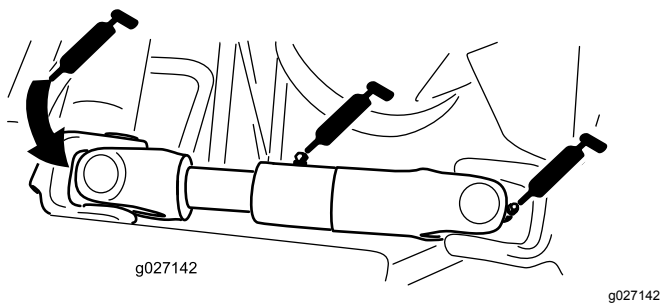

Figure 41
- Pump driveshaft U-joint (3) (Figure 41)